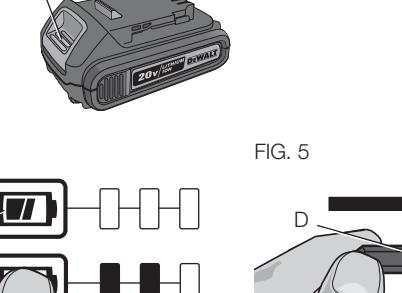

FIG. 3
Charging Procedure (Fig. 3)
- Insert the battery pack (F) into the charger, as shown in Figure 3, making sure the pack is fully seated in charger. The red (charging) light will blink continuously, indicating that the charging process has started.